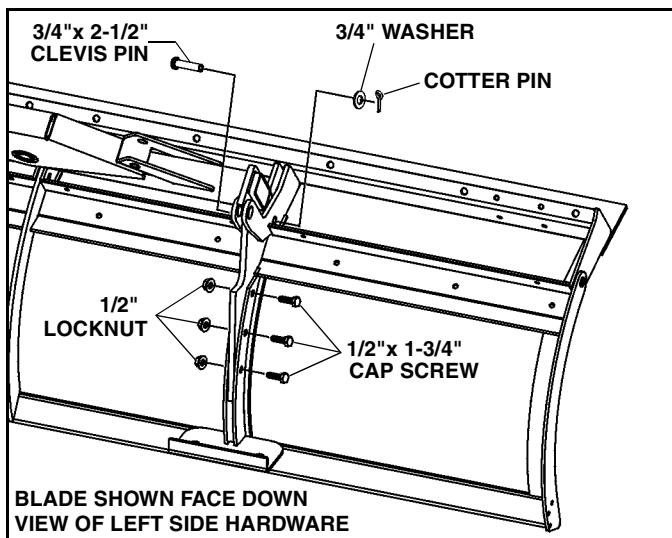

Figure 1-8
3. Assemble swing frame to blade (See Figure 1-8.):